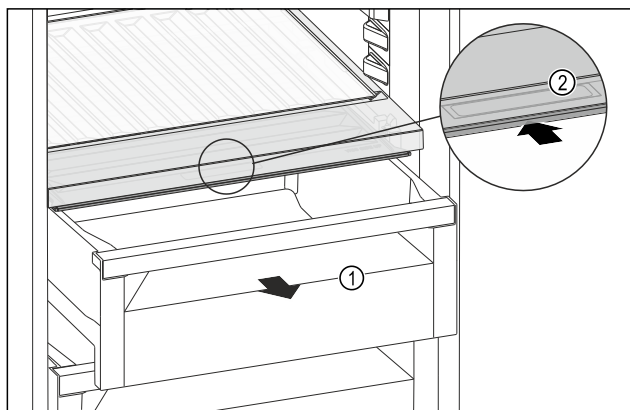

Fig. 133
- Pull out the drawer Fig. 133 (1).
- Grasp the recessed grip Fig. 133 (2) on the compartment lid and push the compartment lid backwards at the same time.